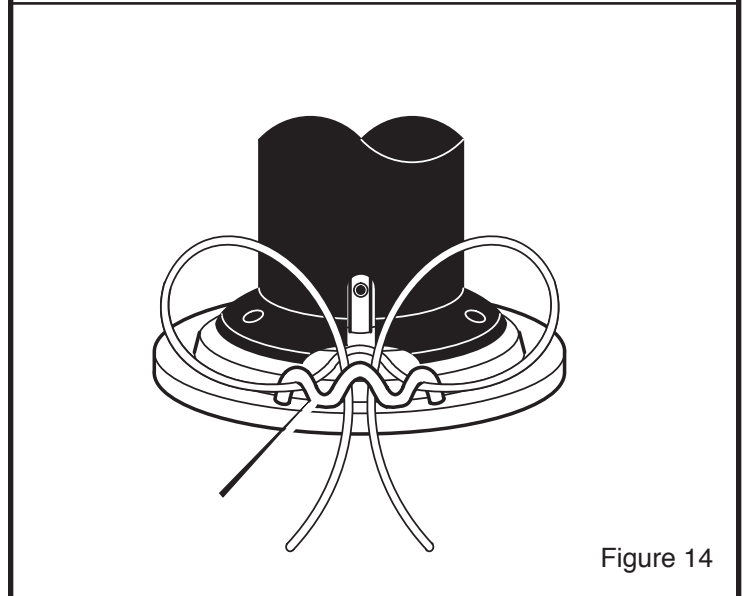

Figure 14
5. Take the ends of the line, cross over the line retainer, and thread the ends through the center hole. (See Figure 14)